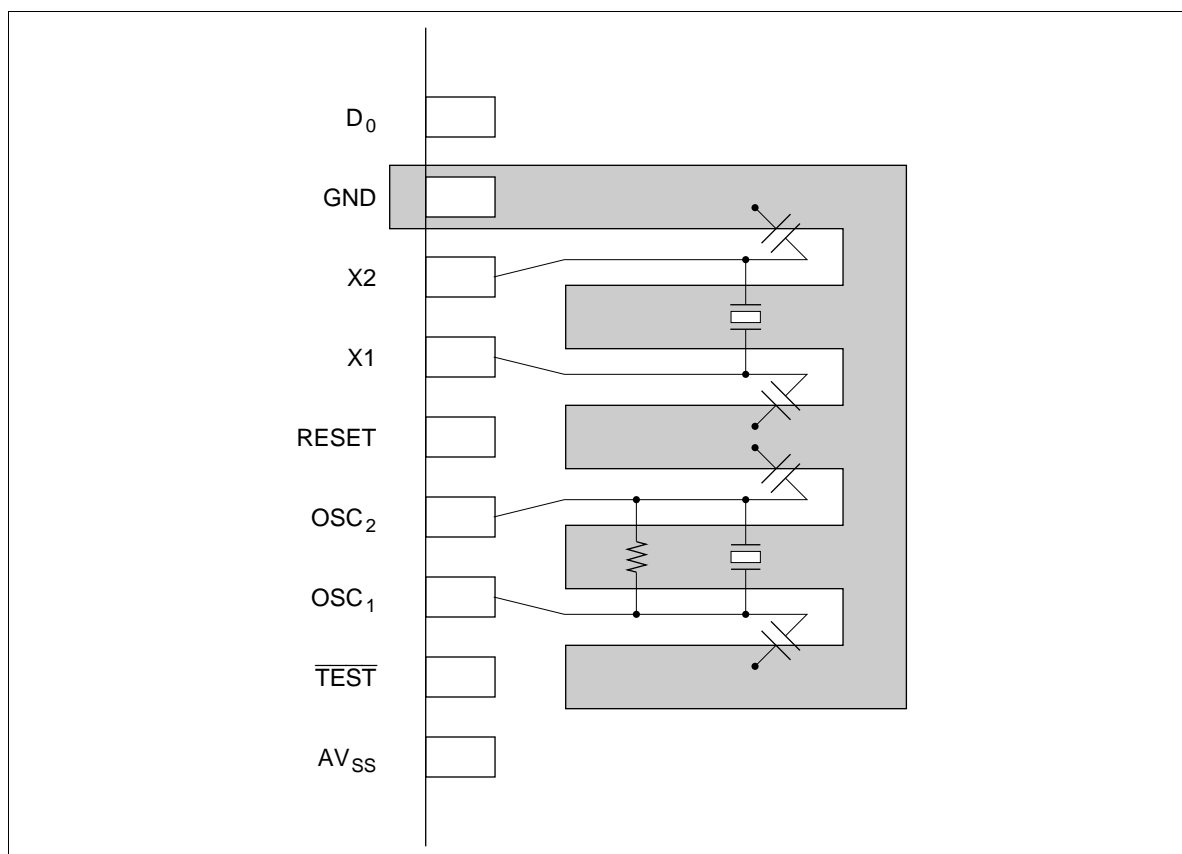

Figure 23 Typical Layout of Crystal and Ceramic Oscillators
2. The wiring between the OSC₁ and OSC₂ pins (X1 and X2 pins) and the other elements should be as short as possible, and must not cross other wiring. Refer to figure 23.